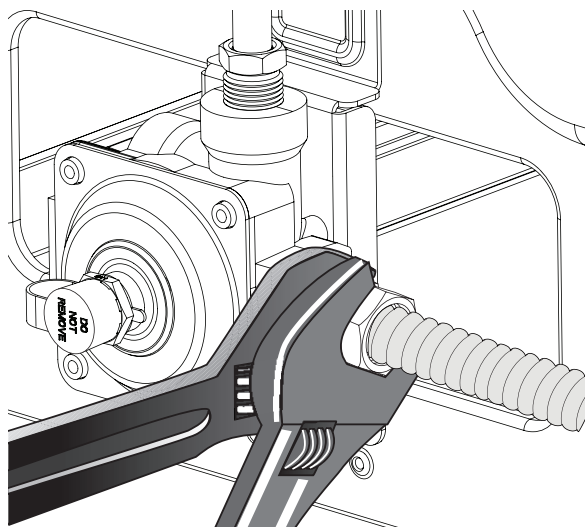

Fig. 10
- c. Tighten the gas supply fitting and/or appliance conduit to flare union adaptor on the right side of the pressure regulator (refer to Fig. 10) using NO MORE THAN 15ft./lbs. of torque. Be sure to stabilize the 1/2" flare union adapter with an adjustable wrench before tightening the gas supply fitting and/or appliance conduit.